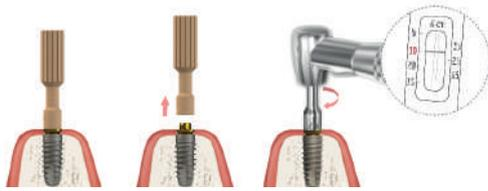

Figure 1
3. Aided by the carrier, position the Straight Multi-Unit in the implant (see Figure 1). Remove the carrier with a sideways movement. Check that the Multi-Unit connection area is clean and free of debris. We recommend verifying whether the device is properly seated with the implant by taking an X-ray.